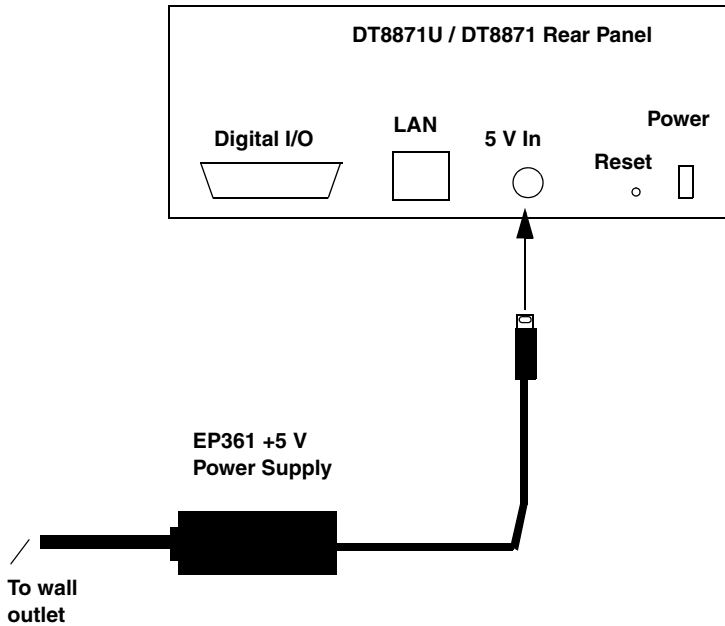

Figure 6: Attaching a +5 V Power Supply to the DT8871U or DT8871 Temperature Instrument
1. Connect the +5 V power supply to the power connector on the rear panel of the DT8871U or DT8871. Refer to Figure 6.
3. Press the Power switch on the rear panel of the instrument, shown in Figure 6, to turn on the DT8871U or DT8871 temperature instrument.